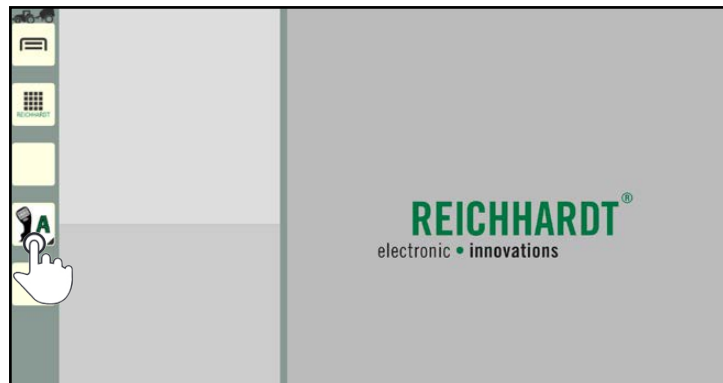

Fig. 70: Tapping a shortcut for an application in the sidebar
- a shortcut in the sidebar (see Fig. 70).